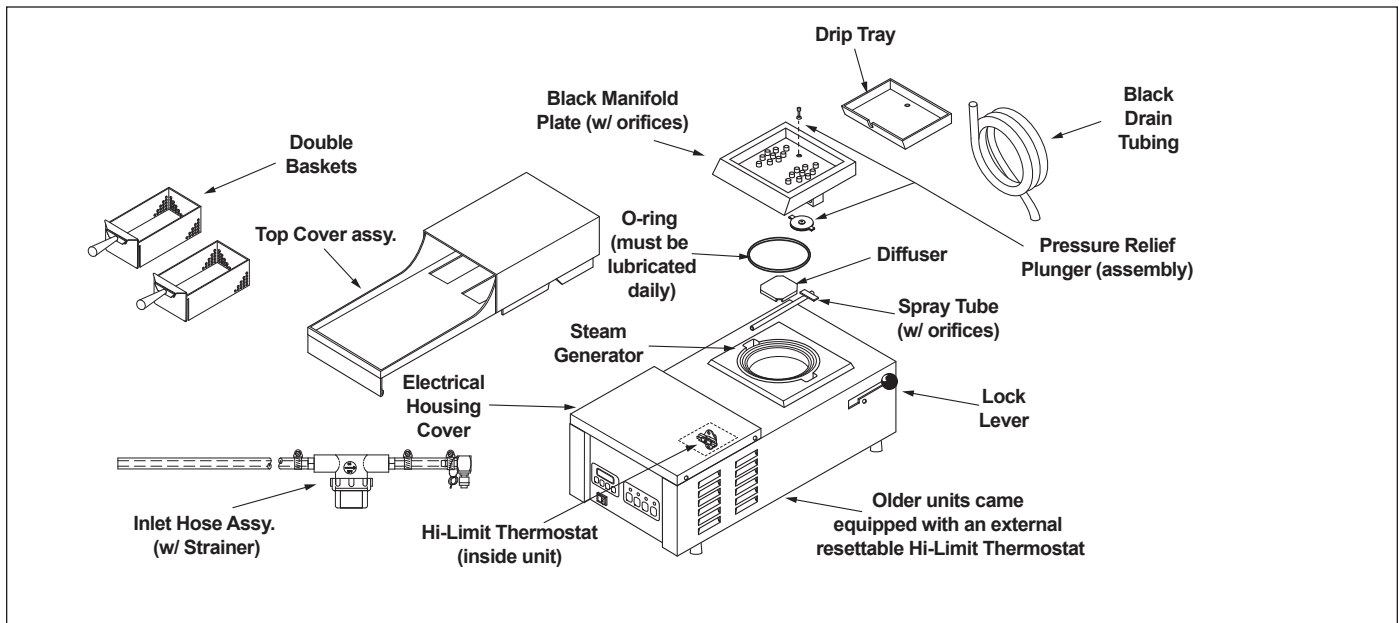

Figure 8. Variety Steamer Components & Accessories
3. With the unit cool, use a non-abrasive brass brush and/or scraper to loosen and remove the excessive calcium/mineral deposits from the generator surface (Figure 8). Wipe the generator with a clean damp cloth. Reassemble the unit.
4. Wearing protective eye wear and gloves, pour delimer solution (not supplied) onto the generator surface (Figure 8). Be sure to follow the delimer manufacturer's directions for proper mixture and use.
The Pressure Relief Plunger (Figure 8) protects the equipment and user from any harm that can result if the orifices of the Black Manifold Plate (Figure 8) has not been cleaned according to the Daily Cleaning Procedures in this manual. When the orifices become restricted or clogged, steam pressure builds up within the black manifold plate. This pressure build-up eventually forces the Pressure Relief Plunger to elevate and relieve the pressure, generating a loud “whistling” sound. If at any time this condition should occur, the unit must be cleaned according to the Daily Cleaning Procedures in this manual. Maintenance procedures are not covered by warranty.